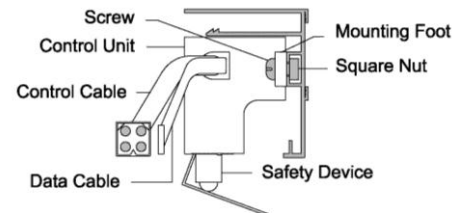

Figure 8
- Place a control unit in the headrail at a suitable location to the left of the motor (when facing the back of the blind), allowing an appropriate distance between the motor and the control unit, such that the fitting slot at the bottom of the control unit is sitting on the headrail's components sitting bar and screw the control unit to the headrail's components fitting slot through its mounting foot. Refer to Figure 8.